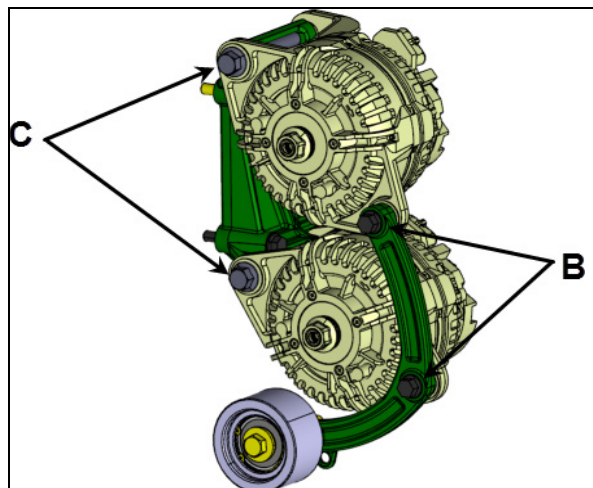

FIGURE 6
8. Install new alternators. Fix lower and upper alternators loosely to alternator supports using bolts **C**. **Apply anti-seize compound inside the alternator mounting ears and inside the sleeves found on the support attached to the engine** (see location C on FIGURE 6). Also, mount arched support loosely onto alternators using bolts **B** (FIGURE 6).